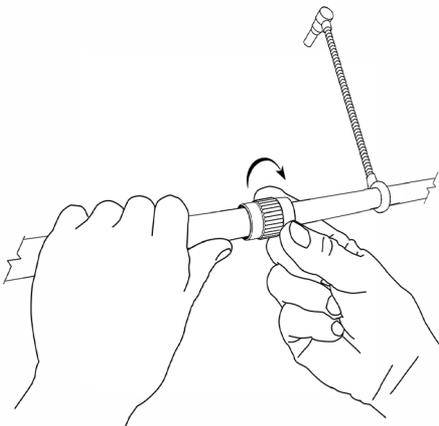

Figure 4. Loosening the Clutches
1. With the PianoMic™ assembled, loosen the two clutches on either side of the two microphone goosenecks (See Figure 4). When adjusting the clutches, be sure to hold the larger diameter tube section with one hand while rotating the clutch with the other hand as indicated in figure 4. However, do not loosen the clutches all the way; just enough so the bar can be extended and still have a little friction. This will make it easier to adjust the length of the bar from both ends once it is placed inside the piano.